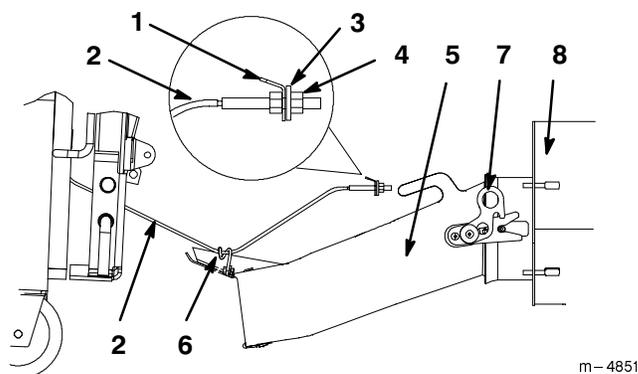

Figure 42
3. Flip seat up and unlatch plenum from both sides of blower inlet (Fig. 42).
4. Pull plenum out from blower housing and place it on the ground (Fig. 42).
5. Pull or slide plenum out from between deck and traction tire (Fig. 42).
3. Flip seat up, reach down and direct plenum into blower housing. Ensure the plenum latches lock into both sides of blower housing (Fig. 42).
4. Reach through from lefthand side in front of traction tire, lift plenum and wind cable counter clockwise around plenum cable guide (Fig. 42).